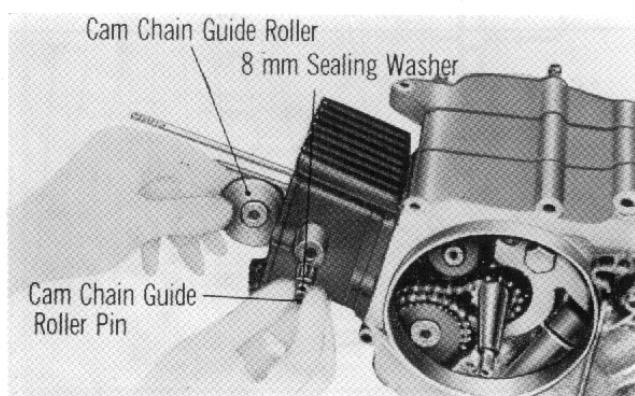

Fig. 15
7. Loosen the cam chain guide roller pin and remove the cam chain guide roller from the cylinder (**Fig. 15**).